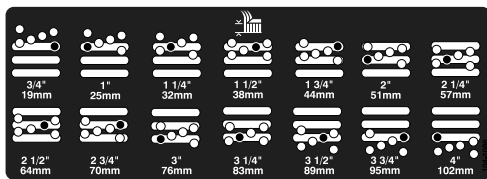

Figure 4
5. Move the chamber to the desired height-of-cut and install a spacer into the designated height-of-cut hole and slot (Figure 4).